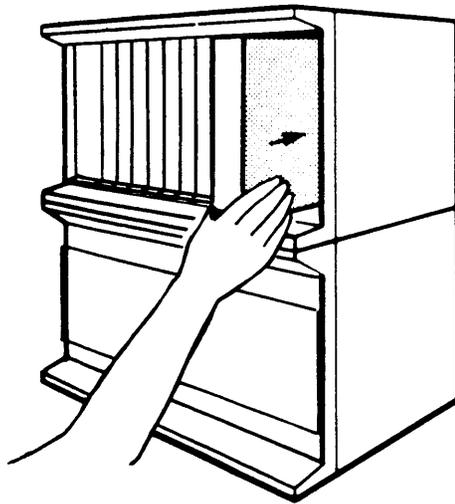

Figure 2.
4. Align the module in the slot (Figure 2), making sure the edges of the circuit board are in the top and bottom grooves of the slot.